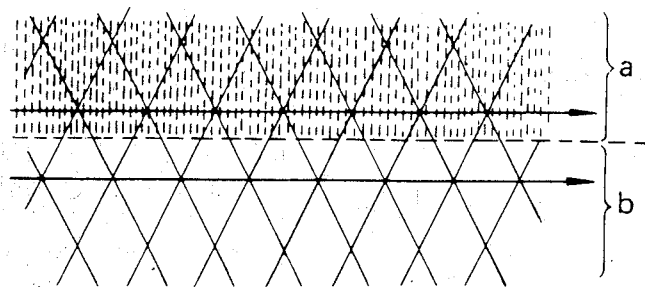
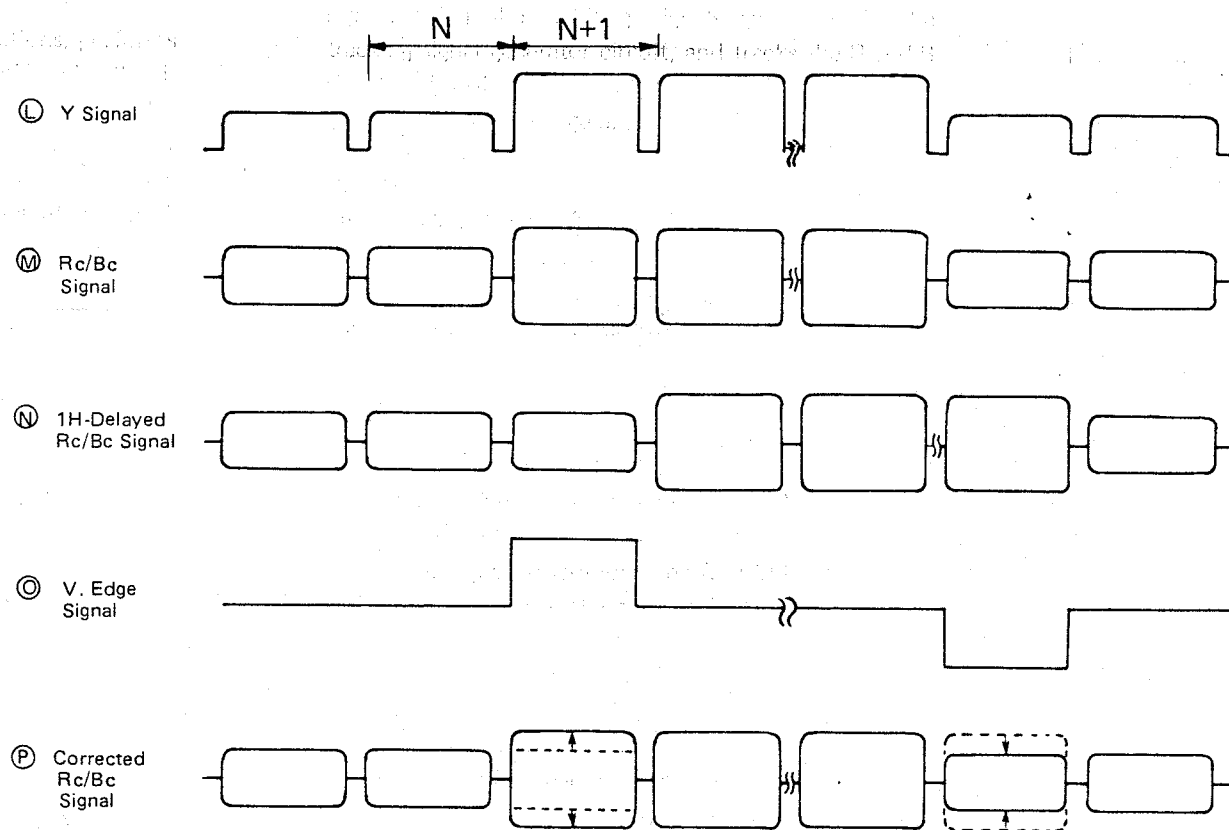

Fig. 70
Fig. 71 Vertical Transient Spurious Correction
As described previously, the Rc and Bc signals are separated from each other by addition and subtraction of the Rc/Bc signal delayed one line (1H) and the phase shifted Rc/Bc signals but not delayed. When a pattern such as shown in Fig. 70 is seen by the camera, the Rc/Bc signal which is not delayed appears as in (M) in Fig. 71, and the Rc/Bc signal delayed one line (1H) becomes as in (N).